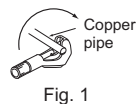

Fig. 1
- 1) Cut the copper pipe correctly with pipe cutter. (Fig. 1, 2)